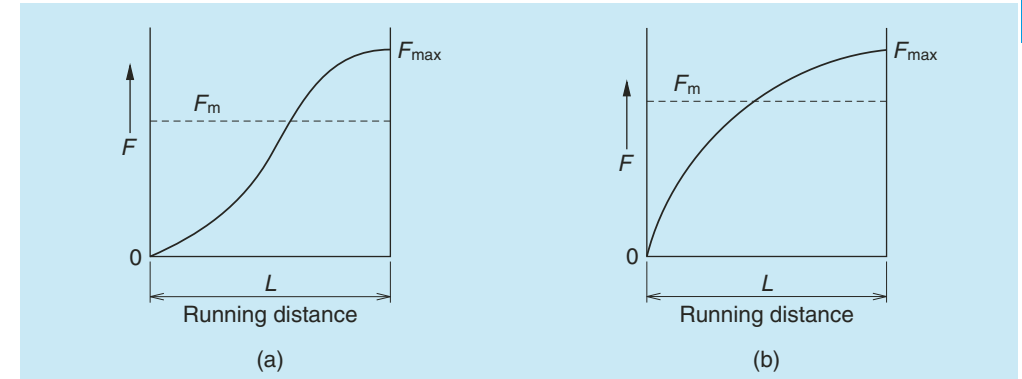

Fig. 2.5 Load that changes in sinusoidal pattern
(3) When load changes in sinusoidal pattern (Fig. 2.5)